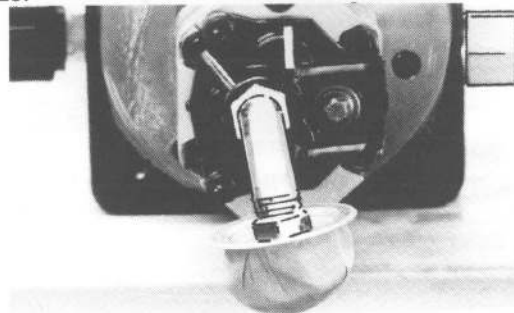

Figure 2-26
16. Secure the inlet suction cover to the pump body and torque mounting bolts to 4-6 lb-ft. See Figure 2-26.
17. Carefully reinstall the filter screen. Tighten it by hand to avoid damaging the threads on the nylon inlet pick-up tube. See Figure 2-26.